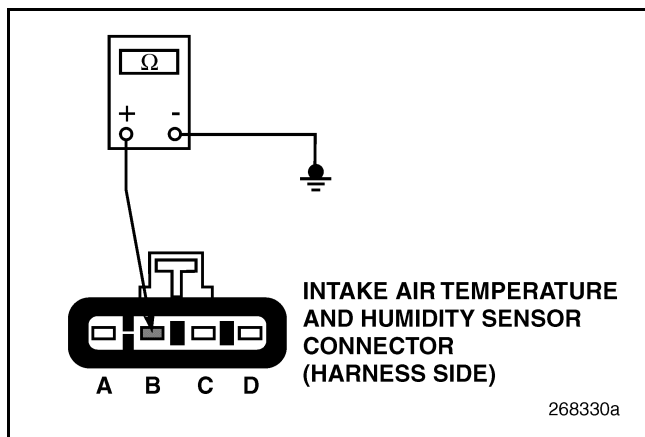

Figure 318
3. Check for continuity between IATH Sensor harness connector pin B (signal line) and a good ground (see Figure 318).